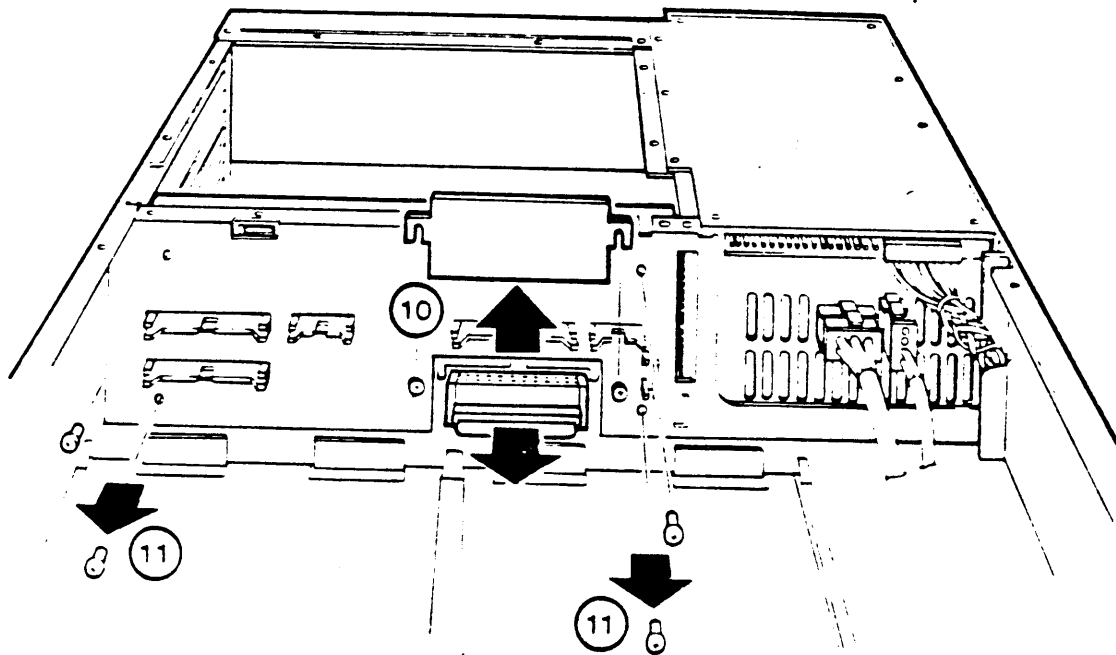

Figure 8-20 Backplane Removal (3 of 4)
10. Loosen the two screws retaining the trap door. Remove the cover and disconnect the cable from side two of the backplane (Figure 8-20)